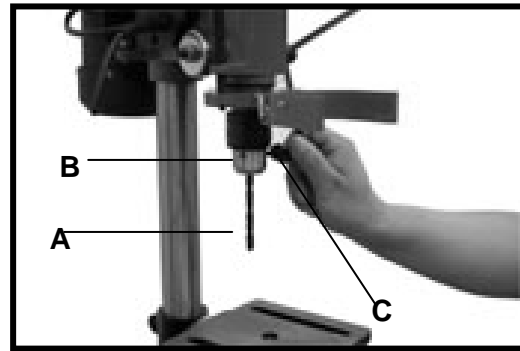

Fig. 15
2. Insert smooth end of drill bit (A) Fig. 15, into chuck (B), as far as it will go, and then back the bit out 1.5mm, or up to the flutes for small bits.
3. Make certain that the drill bit (A) Fig. 15, is centered in the chuck (B) before tightening the chuck with the key (C).
4. Turn the chuck key (C) Fig. 15, clockwise to tighten and counterclockwise to loosen the chuck jaws.
6. Make sure chuck key (C) Fig. 15, is removed from chuck before starting drill press.